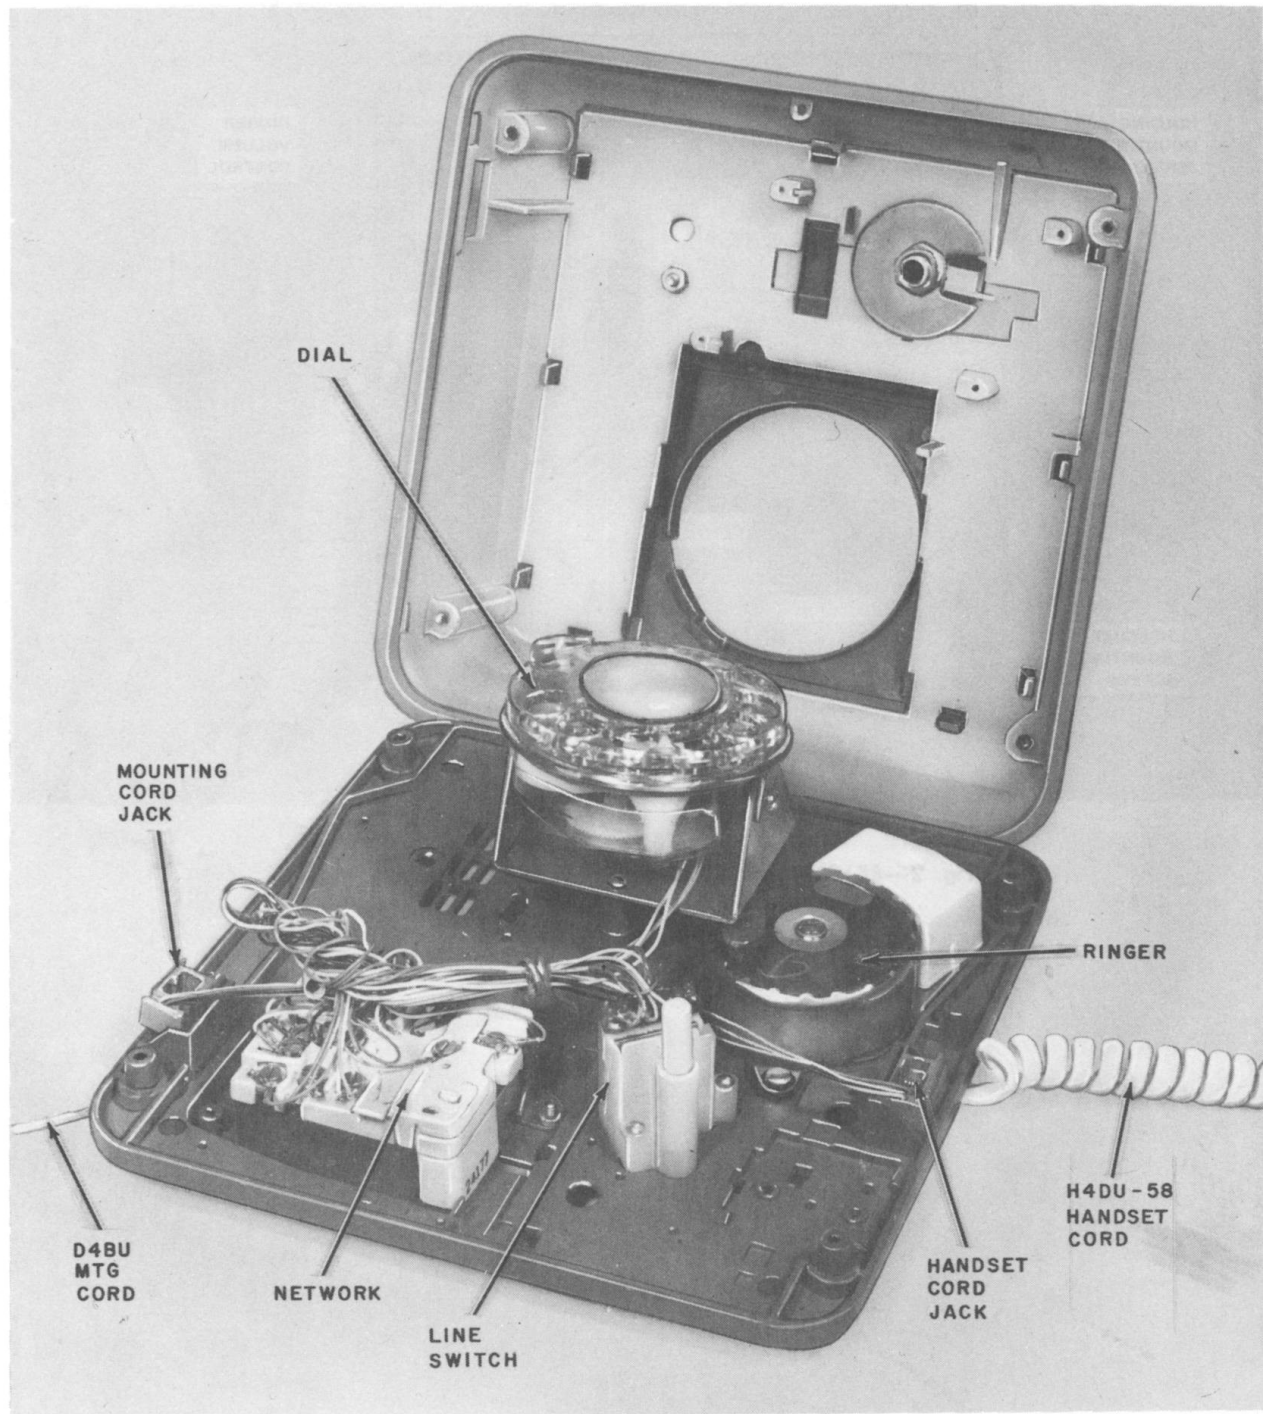

Fig. 3—881C111 Telephone Set With Housing Open
(2) Remove two line switch mounting screws and remove line switch (Fig. 3).
(3) Remove two network and two ringer mounting screws from the base and remove network and ringer (Fig. 3).
(4) Unscrew transmitter and receiver caps and remove transmitter and receiver units.